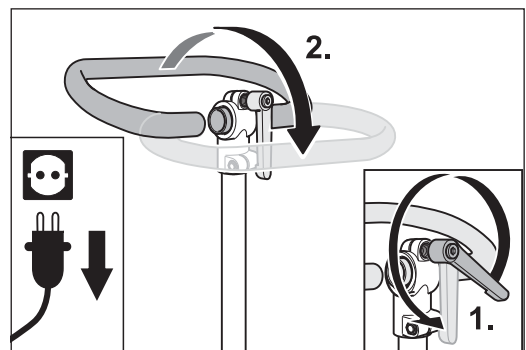

Fig. 13 Undoing the clamping lever on the extension and tilting the handlebar over into the desired position.
- 6 To adjust the handlebar, undo the clamping lever at the upper end of the extension (Fig. 13, 1.).
- 7 Tilt the handlebar over into the desired position (Fig. 13, 2.) and then tighten the clamping lever firmly again.